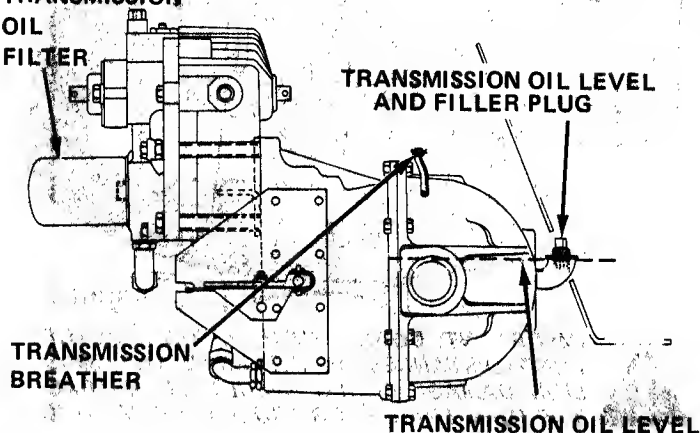

FIGURE 11
5. Remove plug. Oil level should be to the top of the pipe elbow at the filler plug, see Figure 11.
Be sure breather is not clogged. Wipe clean with a rag and solvent. See Figure 11.